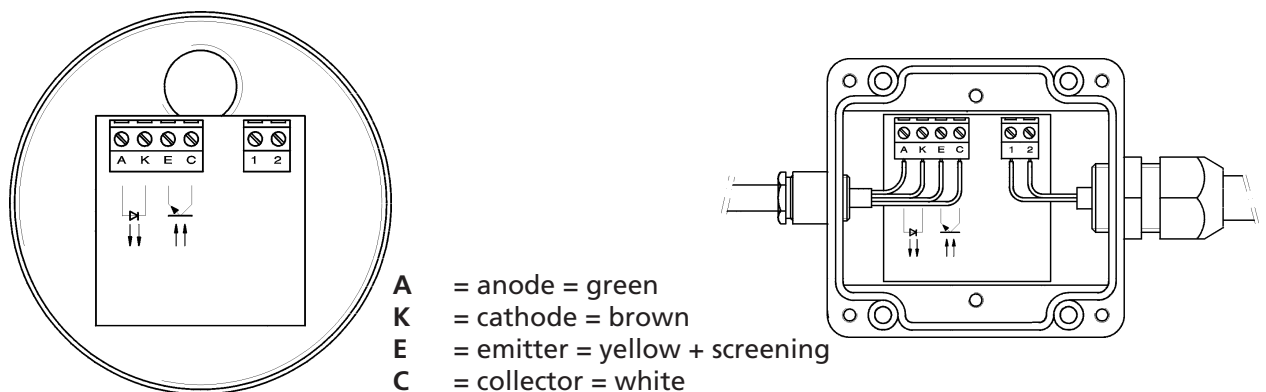

Fig. 4a: Connecting the level detector
1. Install the transducer according to the wiring diagrams in Fig. 4a–h.